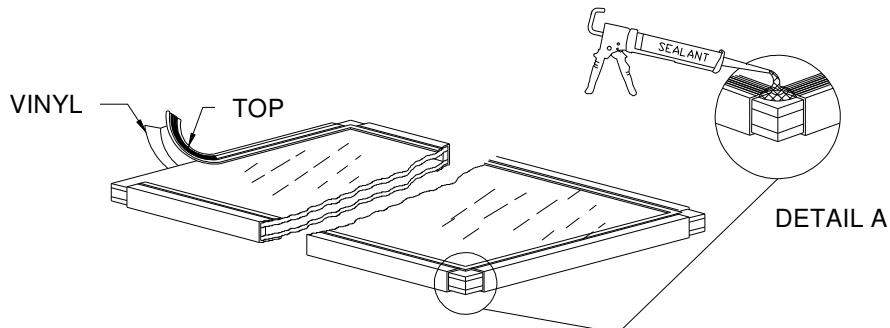

Figure 5:
2. Cut glazing vinyl at corners as shown in Figure 5, Detail "A".
5. Apply a bead of sealant that is compatible with the insulated glass seal to all four exterior corners as shown in Figure 5, Detail "A".